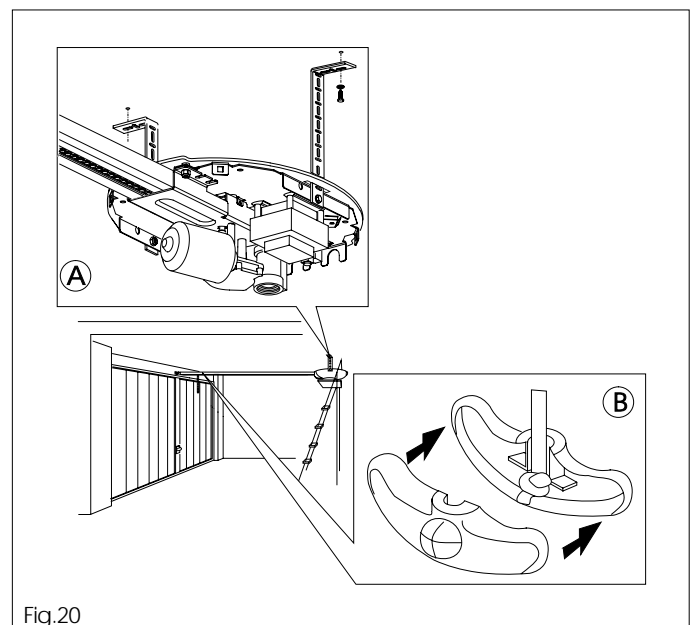

Fig.20
- 6.14 Place the knot inside the knob – as shown in fig. 20 ref. B – and close it.
6.12 Drill, insert the expansion plugs and, using screws and washers, secure the motor unit to the ceiling (fig. 20 ref. A).